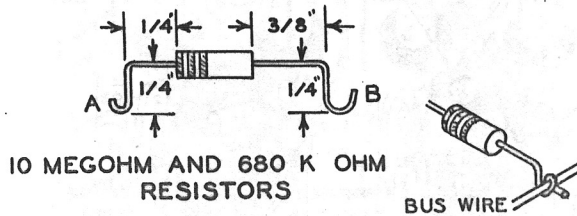
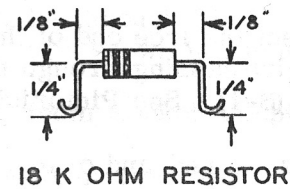

Figure 11
Figure 12
- (✓) Prepare nine 10 megohm (brown-black-blue) 1/2 watt resistors as shown in Figure 11.
- (✓) Prepare nine 18 KΩ (brown-gray-orange) resistors as shown in Figure 12.
- (✓) On socket AI, connect one of the 18 KΩ resistors between pin 3 (NS) and pin 7 (NS).
- (✓) Prepare nine 680 KΩ (blue-gray-yellow) 1/2 watt resistors as shown in Figure 11.
- (✓) On socket AI, connect one of the 680 KΩ resistors from pin 3 (NS) to the bus wire connected to terminal strip LQ, lug 3 (S-1).